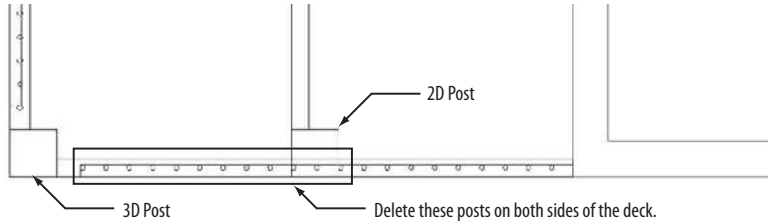

FIGURE 16.67: Delete the posts shown.
12. Delete any of the handrail posts that exist between the 8" (204 mm) 3D support posts and the 8" (204 mm) 2D support posts on both sides of the deck (see Figure 16.67).